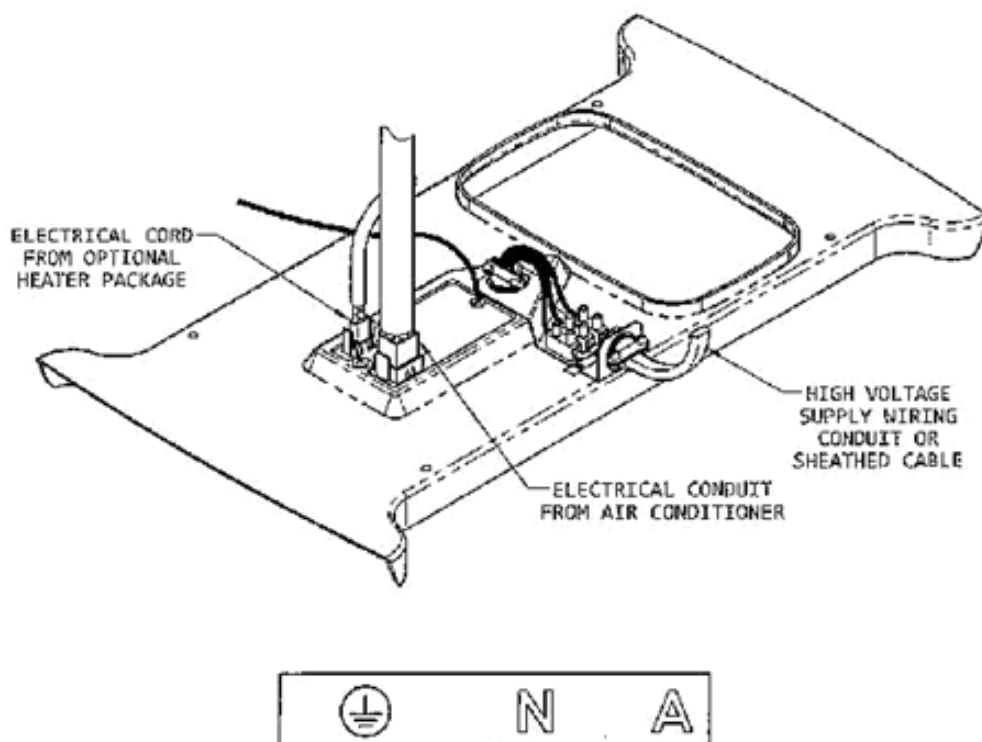

FIGURE 10
- D. Raise the ceiling assembly clute and insert the supply wiring through the cable clamp so there is sufficient supply conductor to reach the power connection strip. Secure the cable clamp over the supply wire sheath so that no movement is possible (See Figure 10).
- E. Connect the supply power conductors to the "A" and "N" lugs on the connection strip. **IMPORTANT** - If power is from one "Hot" and one "Neutral" conductor, connect the neutral to "N". Connect the ground conductor to the "ground" lug (See Figure 10).
- F. Plug the air conditioner electrical conduit into the 9 position receptacle as shown in Figure 10.
- G. If the optional heater accessory package is being installed, remove the cover from the 2 position receptacle and plug the heater cord into receptacle as shown in Figure 10.